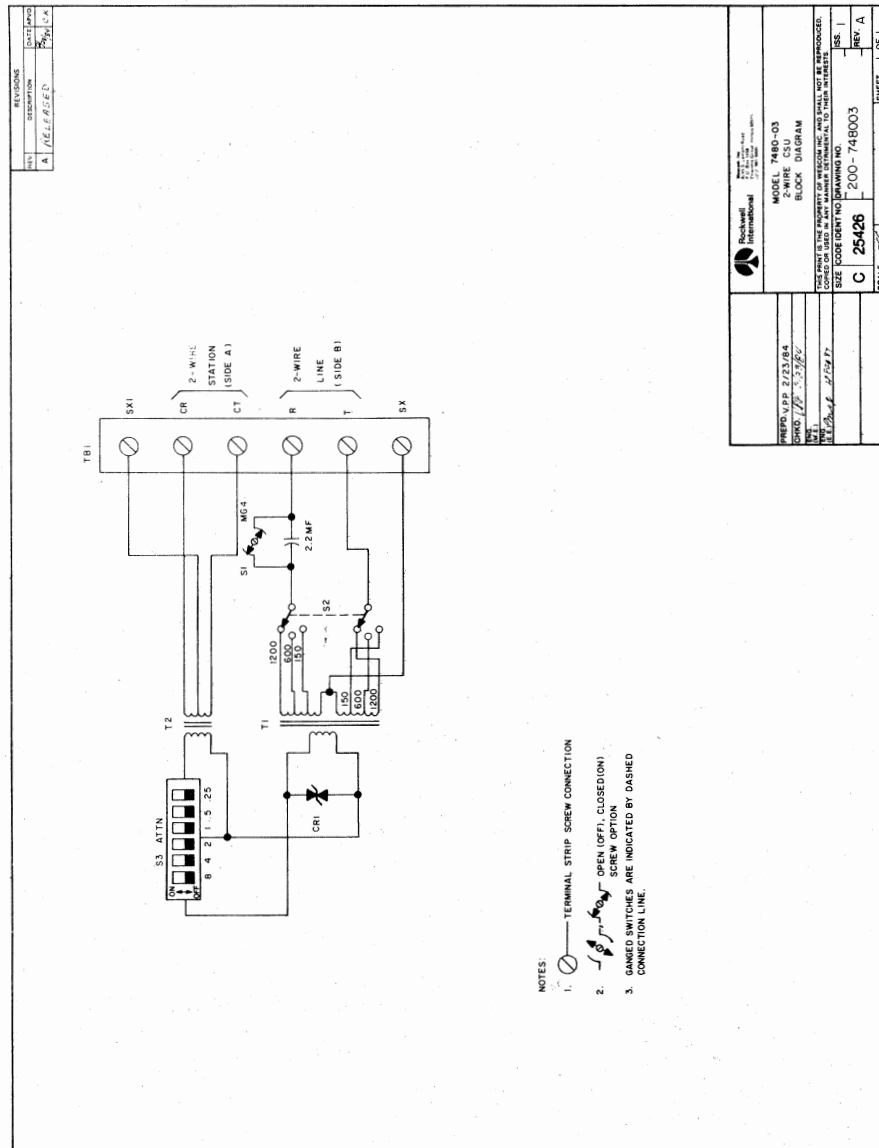

Figure 3. 7480-03 2-Wire CSU Interface Block Diagram
3.01 Refer to Figure 3, the 7480-03 2-Wire CSU Block Diagram, while reading the following circuit description.